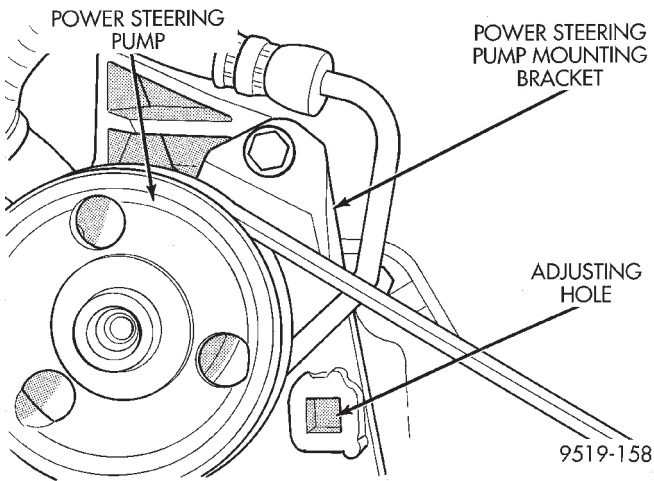

Fig. 36 Power Steering Pump Front Mounting Bracket Adjusting Hole
(9) Install a 1/2 in. breaker bar in the square adjusting hole in the front power steering pump mounting bracket (Fig. 36) Then rotate pump to obtain the correct drive belt tension. See Accessory Drive Belts in Group 7 Cooling System of this service manual for the correct drive belt tension specification. When correct drive belt tension is obtained first tighten the bottom 2 adjusting slot bolts at the power steering pump cast mounting bracket to a torque of 54 N·m (40 ft. lbs.). Then tighten the power steering pump mounting bracket top pivot bolt to a torque of 54 N·m (40 ft. lbs.).